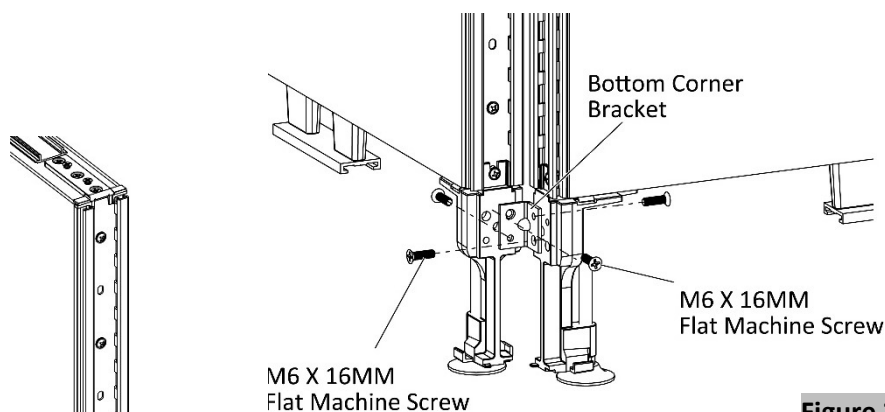

Figure 3
5. Securely fasten the bottom corner bracket to panel legs with four M6 X 16MM Flat Machine Screws, (Figure 3).